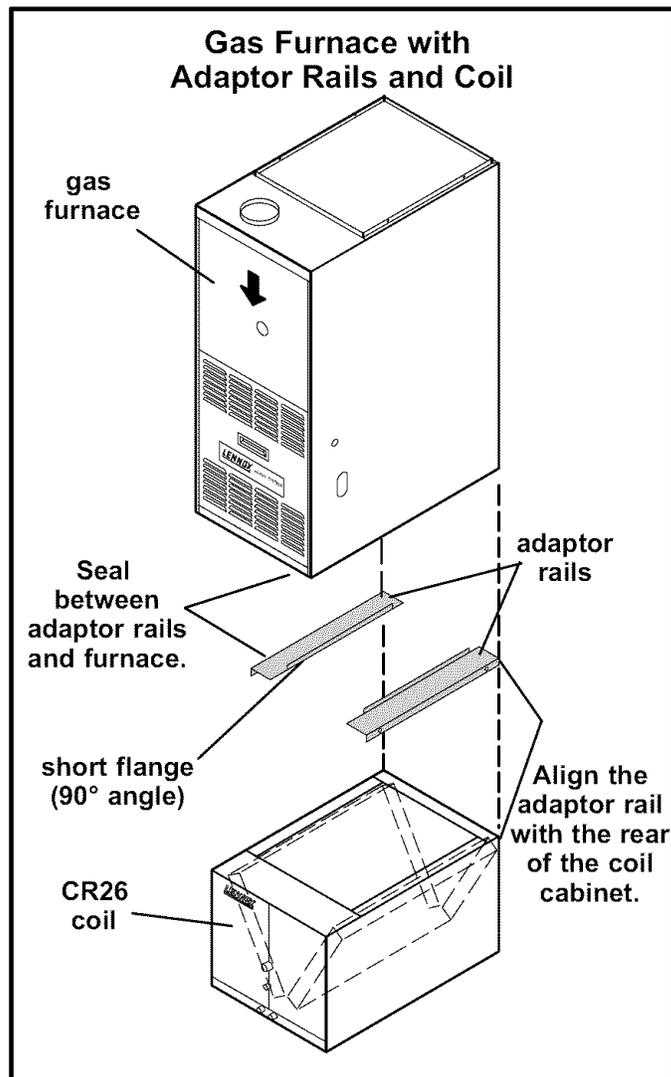

Figure 2
- 3- Install the provided adaptor rails or filler pieces on the coil if necessary. Align the adaptor rails with the rear of the coil cabinet. Figure 2 illustrates how the furnace, coil, and adapter rails fit together.